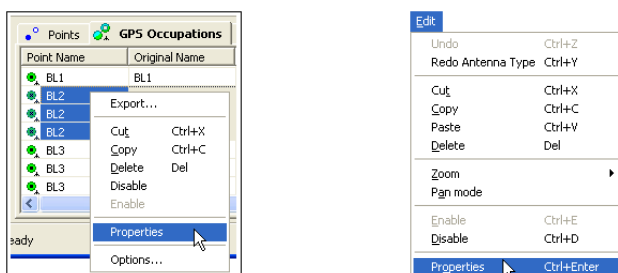

Figure 5-4. Ways to Open the Properties Dialog Box
- Right-click the selected occupations and click **Properties** on the pop-up menu, or click **Edit ► Properties** (Figure 5-4).